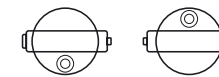

Figure 6
a) Adjust the lifting screws to center the bubble vial and rotate the telescope by 180° . The bubble vial should remain in the center (Figure 6).